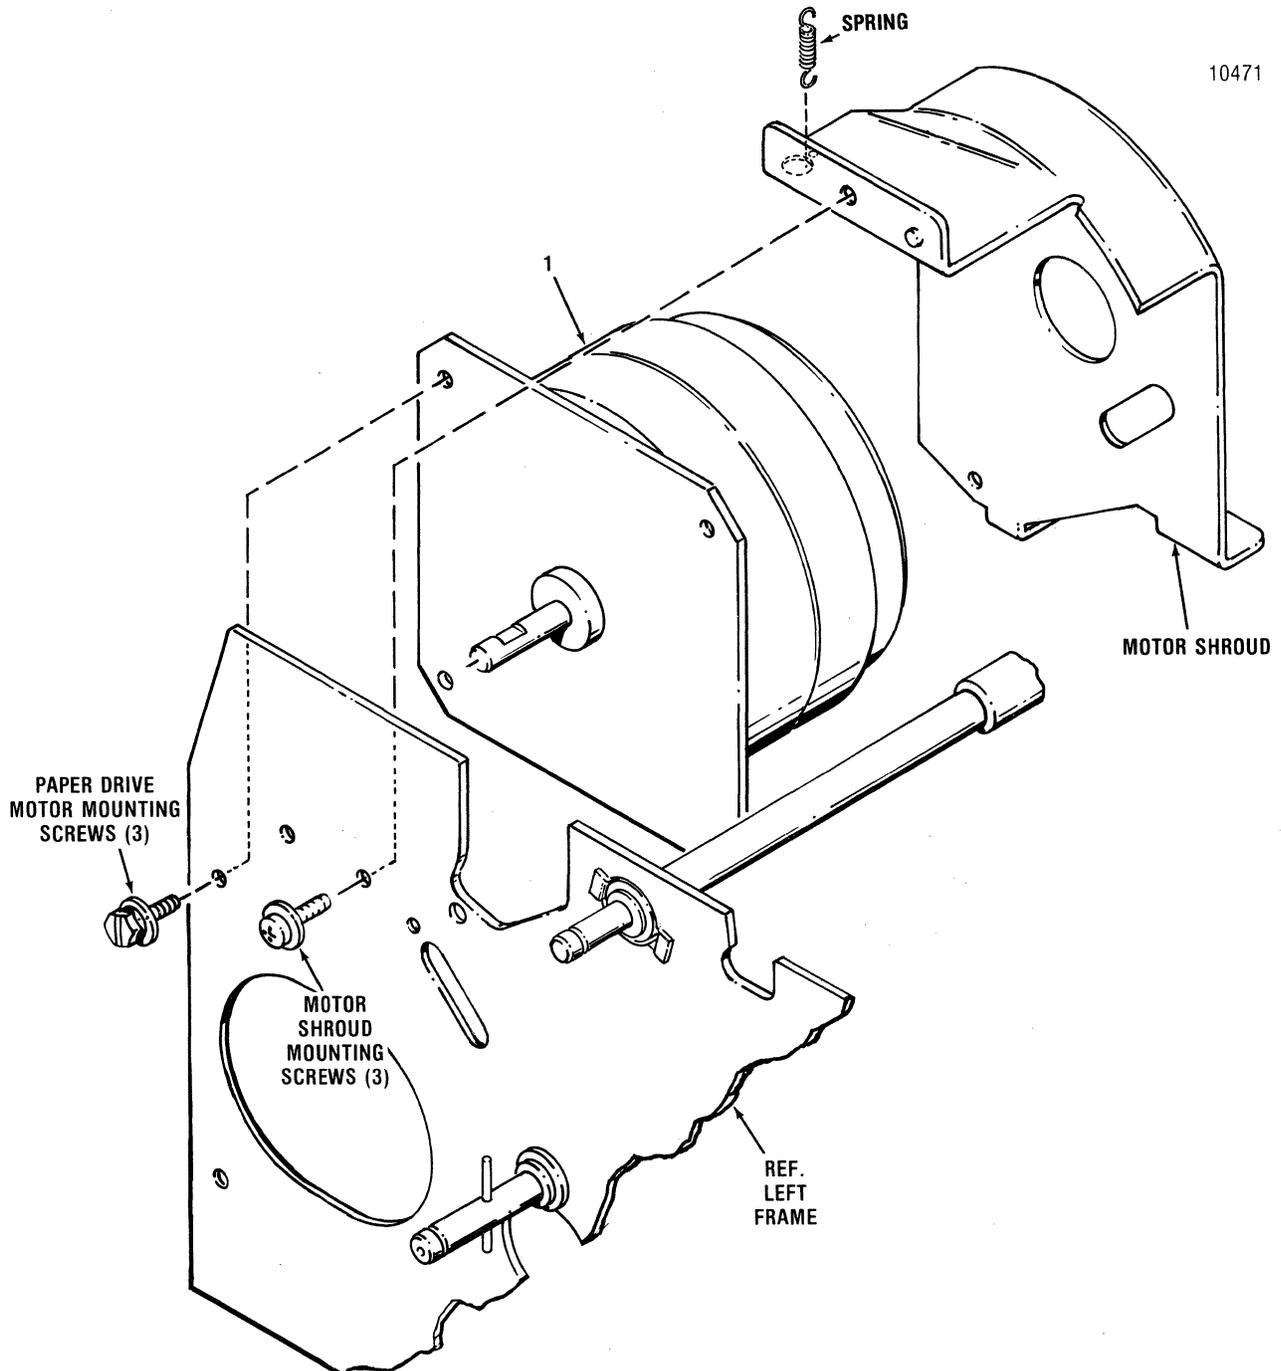

Figure 5-17 Removal/Replacement, Paper Drive Motor
The paper drive motor, item 1 of Figure 5-17, is attached to the inside of the left frame and is removed using a Phillips head screwdriver and a flat
blade screwdriver. To remove the motor, refer to Figure 5-17 and perform the following steps: